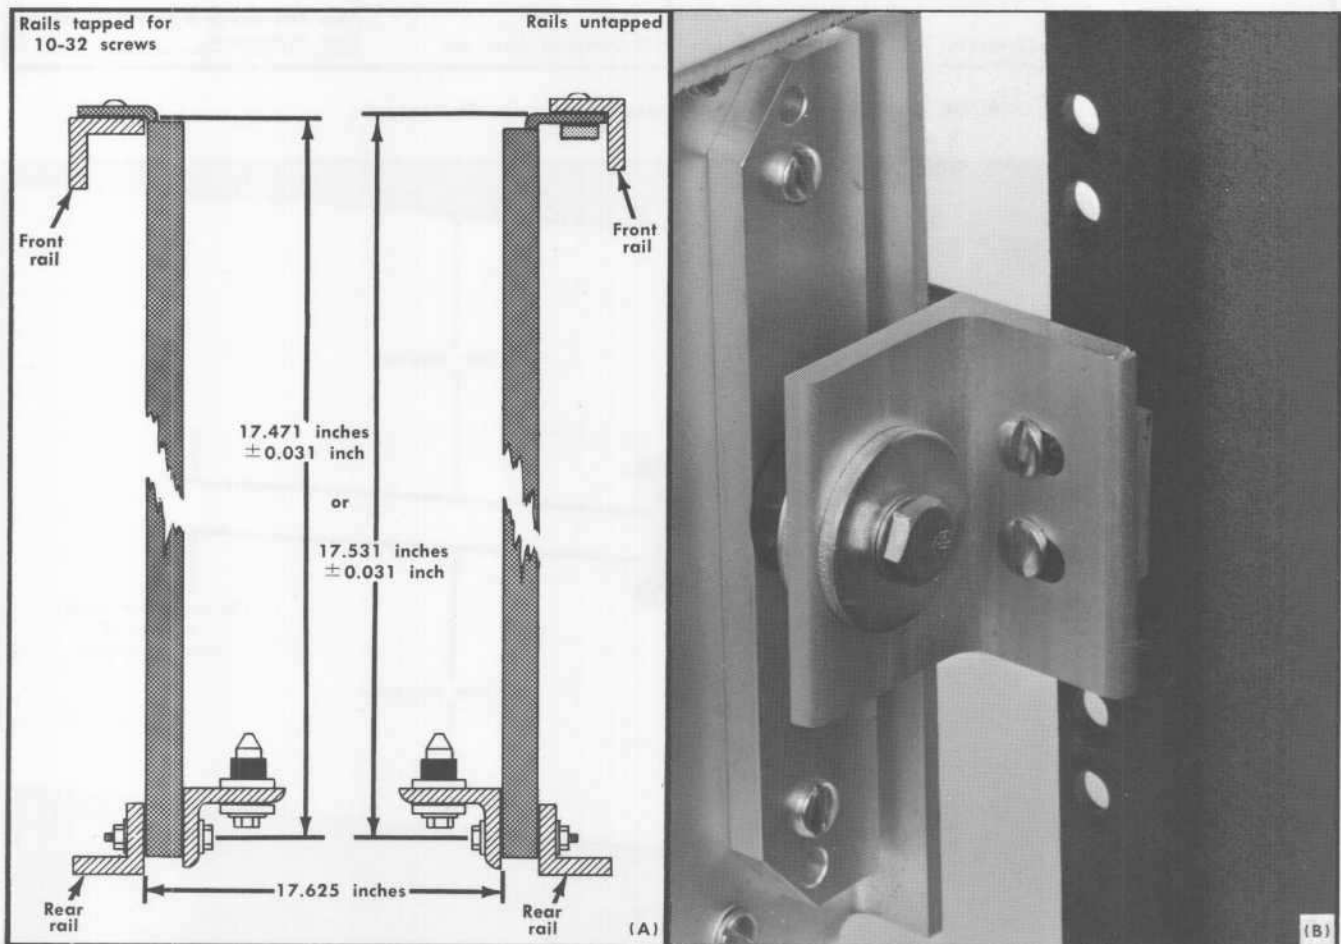

Fig. 6-4. Supporting the rear of the stationary sections; (A) dimensions necessary, (B) completed installation.
The following mounting procedure uses the rear support kit (see Fig. 6-4 and 6-7) to meet the environmental characteristics of the instrument (shock and vibration). Two alternative mounting methods are described at the end of this procedure. However, when mounted according to these alternative methods, the instrument may not meet the given environmental characteristics for shock and vibration.
this point. Fig. 6-4 illustrates a typical rear installation using the rear support kit and gives the necessary dimensions.
1. Select the proper front-rail mounting holes for the stationary sections using the measurements shown in Fig. 6-4.